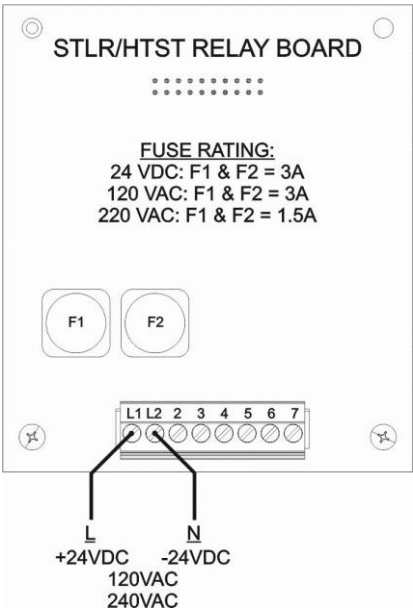

Figure 37: STLR Relay Board Control Wiring
The STLR Relay Board must have input power supply voltage on Terminals L1 & L2. There are three versions of the STLR Relay Board, each of which supports a different input voltage. Part Number (PN) 57214A0001 supports 220VAC, PN:57214A0002 supports 110VAC, while 57214A0003 Supports 24 VDC. See Figure 37 for F1 and F2 Fuse requirements for the STLR Relay Board.